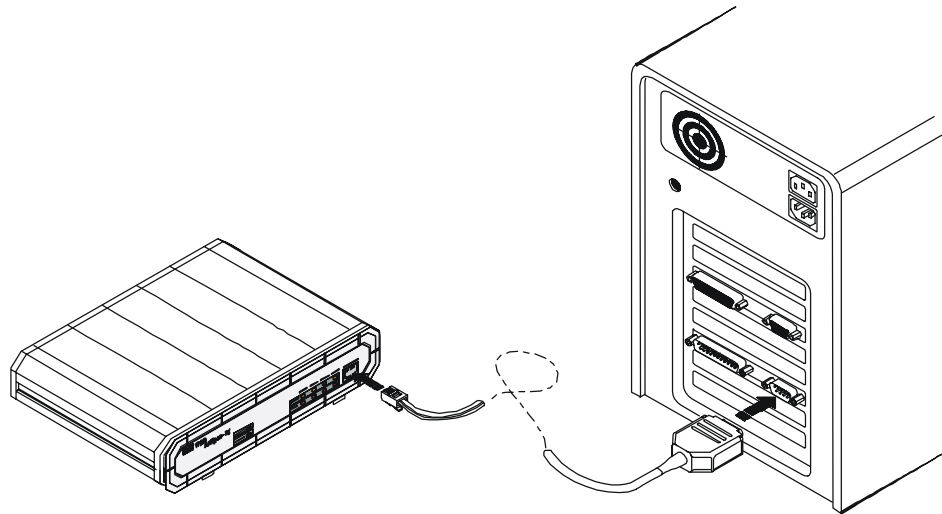

Figure 2-6. Connecting to the Terminal Emulator
2. Attach the other end of the cable to the control port on the WEB RANger-II front panel (refer to *Figure 2-6*).